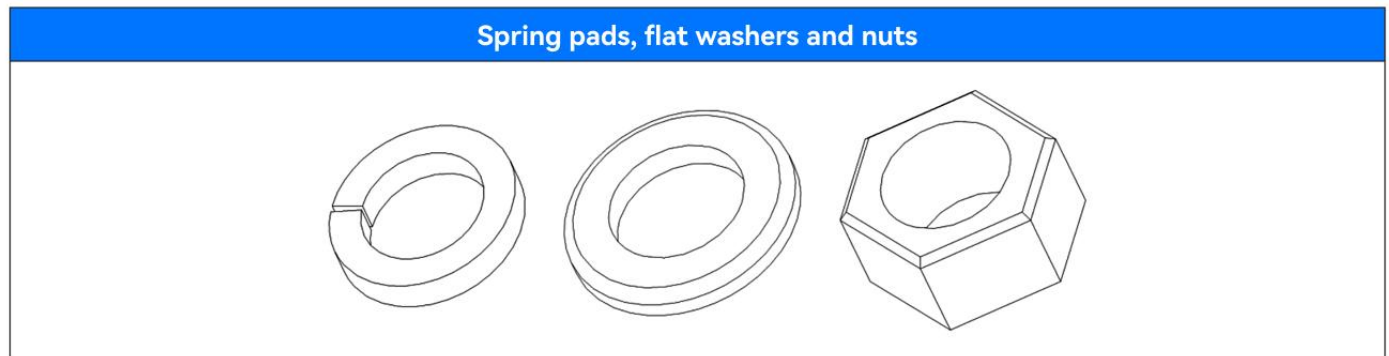

Figure 3.1
1. Remove 4 sets of installation accessories (nuts, spring washers, flat washers), as shown in Figure 3.1. The installation screws do not need to be removed. Place the 4 sets of accessories aside and make sure not to lose any of them.